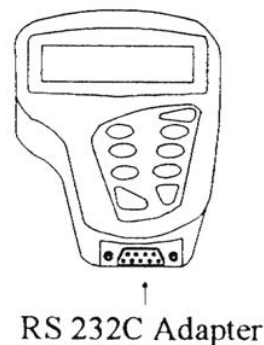

Figure 10: Location of RS232C
1. Open the printer port cover located at the bottom end of the meter. Do not use excessive force when doing this. See Figure 10.